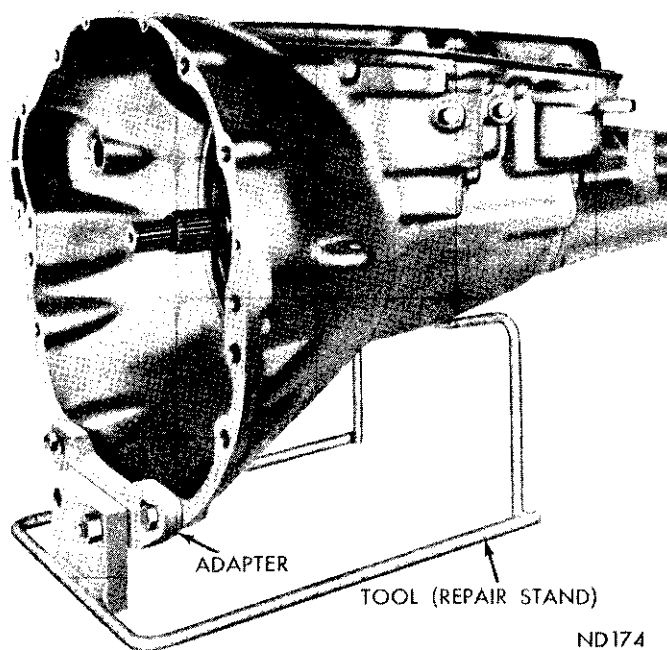

Fig. 35—Transmission Installed in Repair Stand
(1) Place transmission assembly in repair stand, Tool C-3750 with adapter C-3882 (Fig. 35).